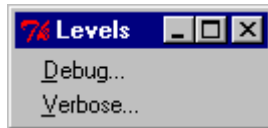
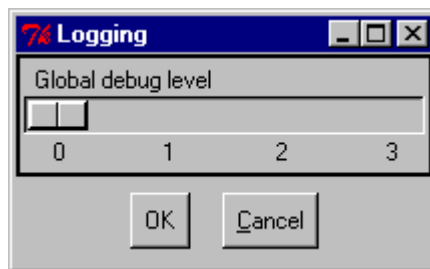

Figure 7-13. Levels Menu Items
Figure 7-14. The Level Dialog (Global Debug)
- Levels—Displays a cascading menu containing the Debug and Verbose items. Either item presents a dialog box for setting the global level for the selected item. Except for the label, the dialog box for both items appears as shown in Figure 7-14. Figure 7-13 shows the Levels menu: